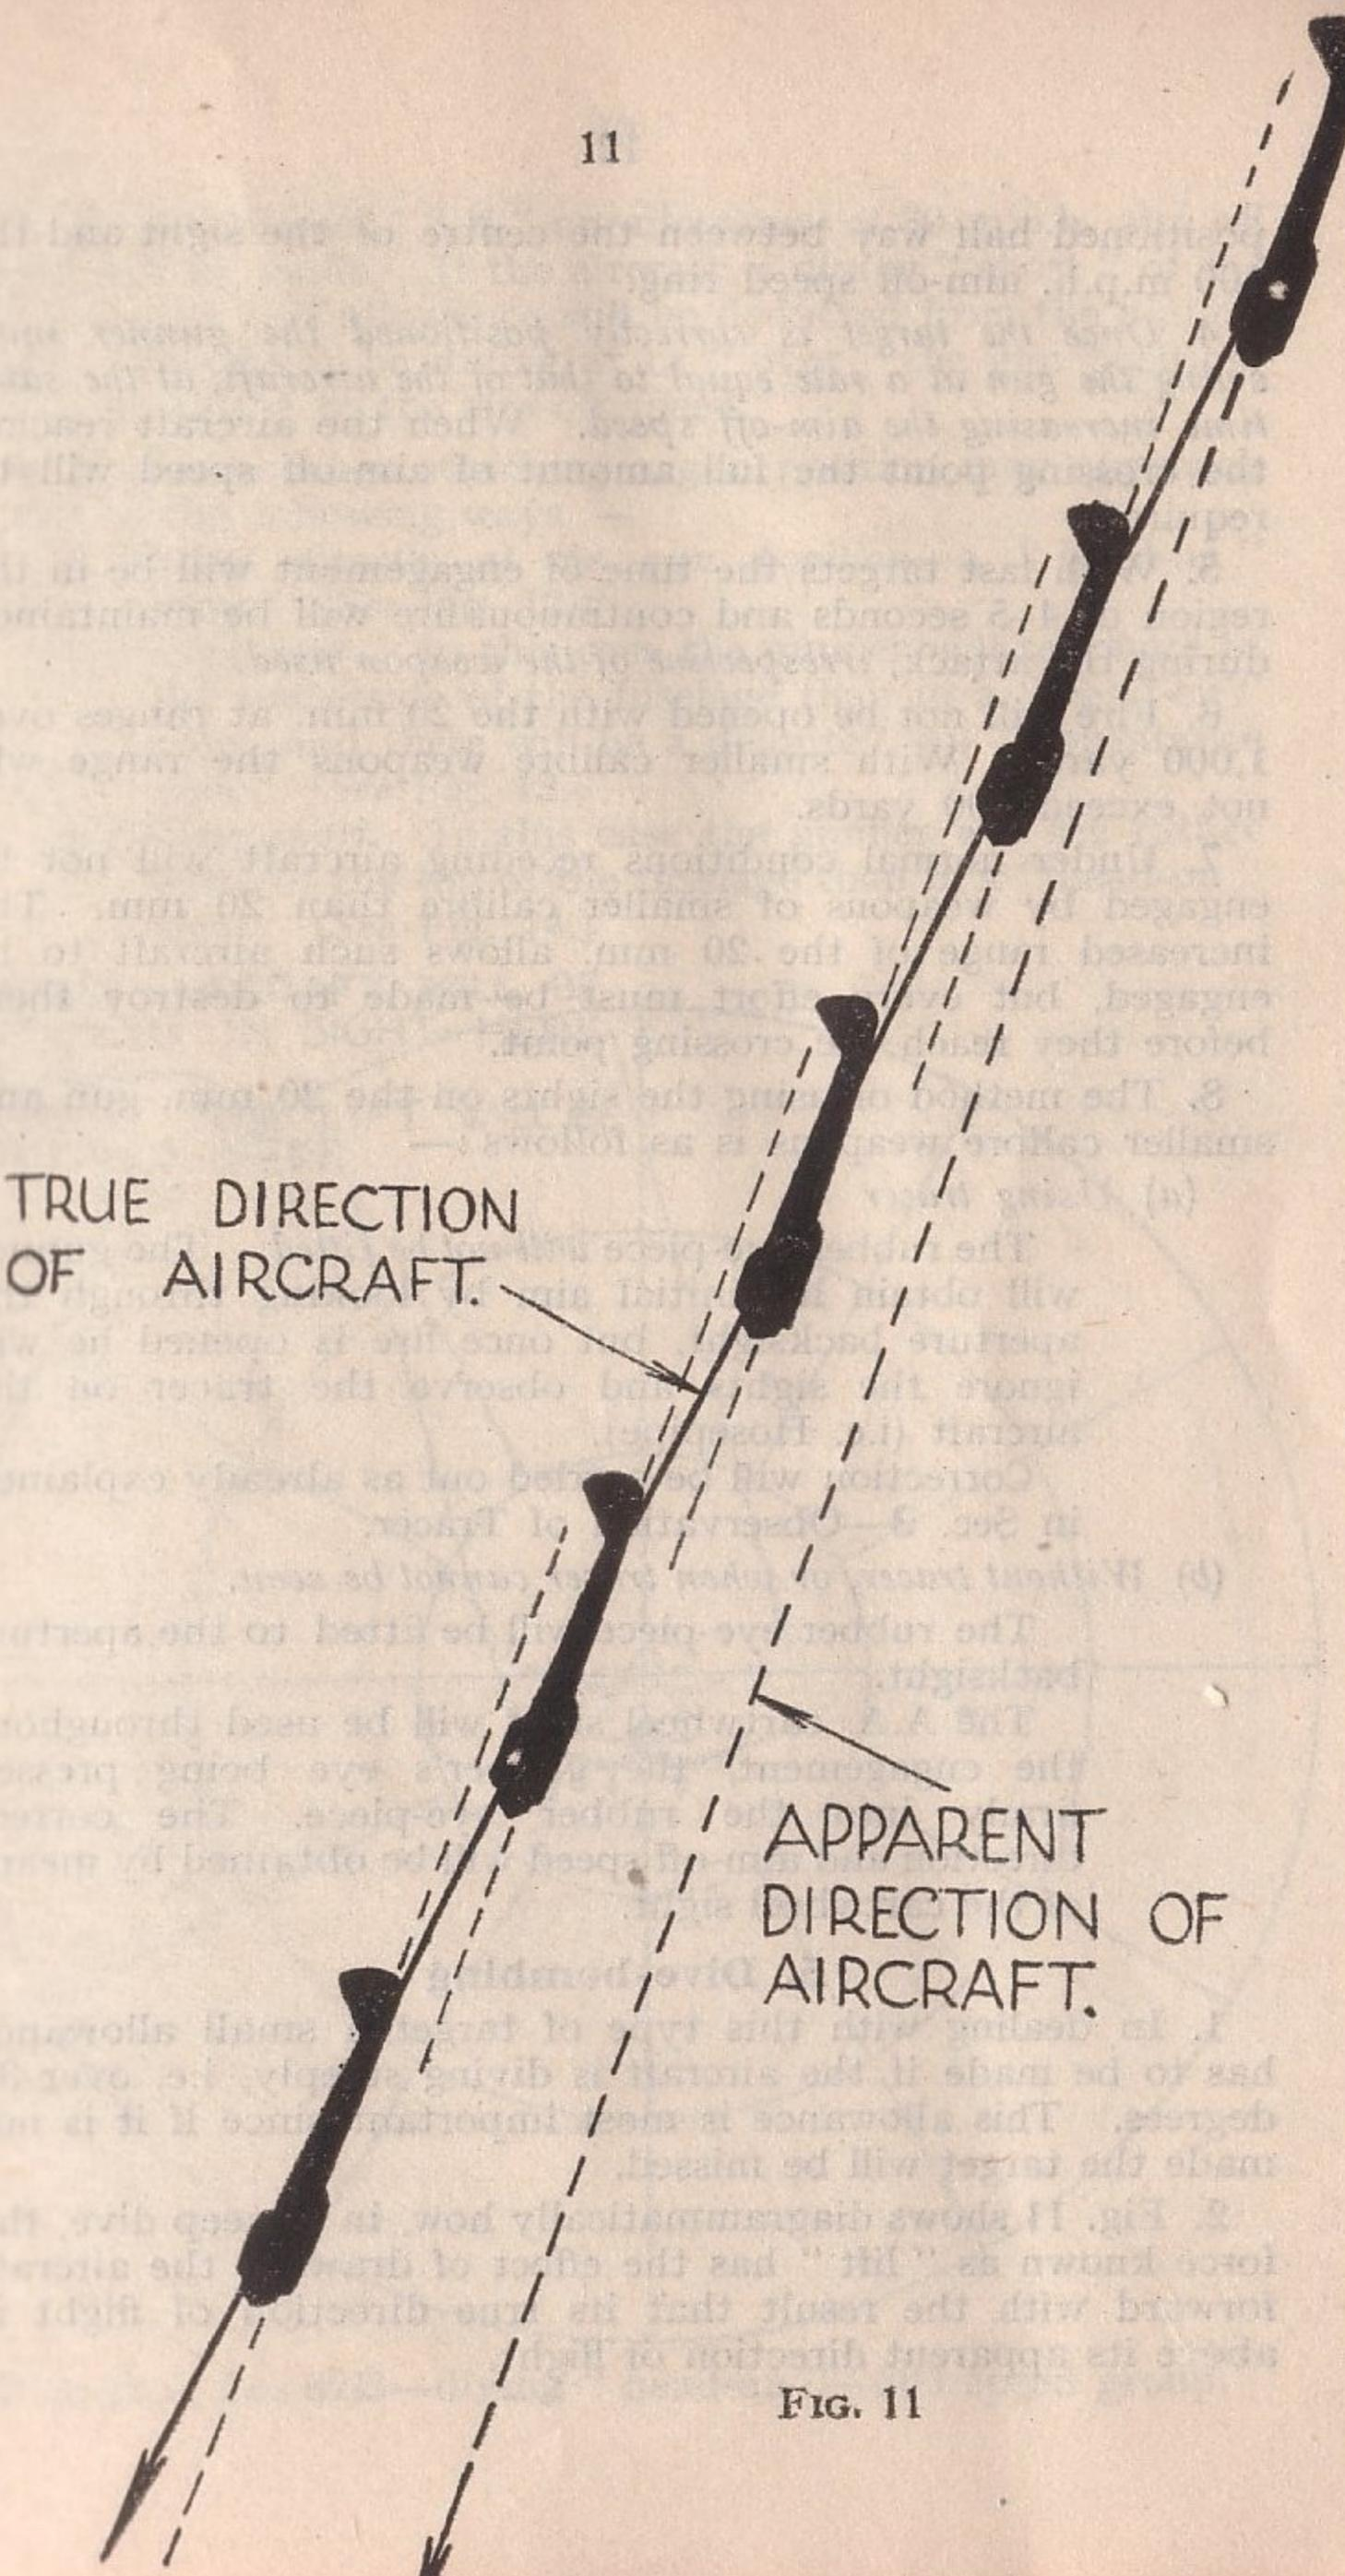

FIG. 11
2. Fig. 11 shows diagrammatically how, in a steep dive, the force known as "lift" has the effect of drawing the aircraft forward with the result that its true direction of flight is above its apparent direction of flight.